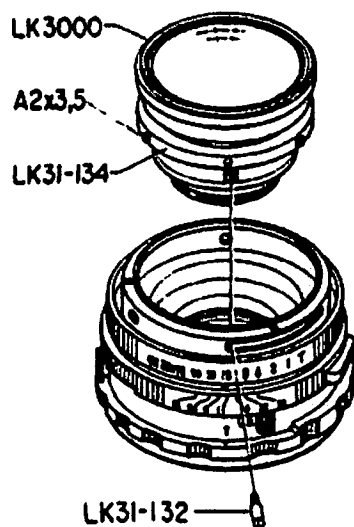

Fig. 155
2. Attach Lens assembly to the shutter in the lens barrel by turning Lens assembly clockwise as shown in Fig. 155.